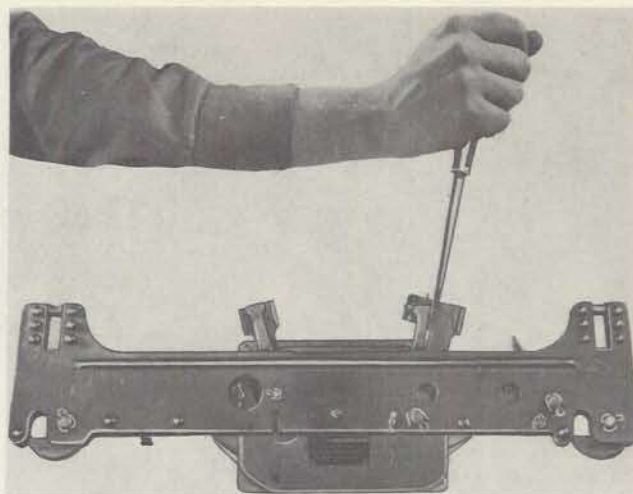

Figure 52—Second Bomb Bay Release
(2) Bombs may be released individually "unarmed" by prying bomb hanger release arm past the spring loaded stop on the bomb release actuating arm of the bomb shackle (fig. 52). (If electrical solenoid fusing control for nose and/or tail of bomb is provided, they may be released either armed or unarmed.)